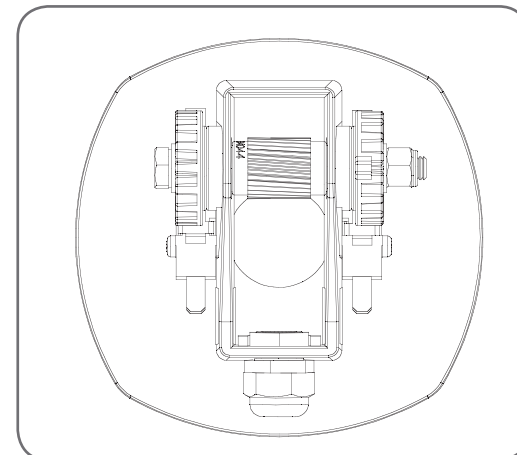

Fig 8.3
- ii. Rotate the red CLOSE limit cam until the switch is activated. (Fig 8.3).